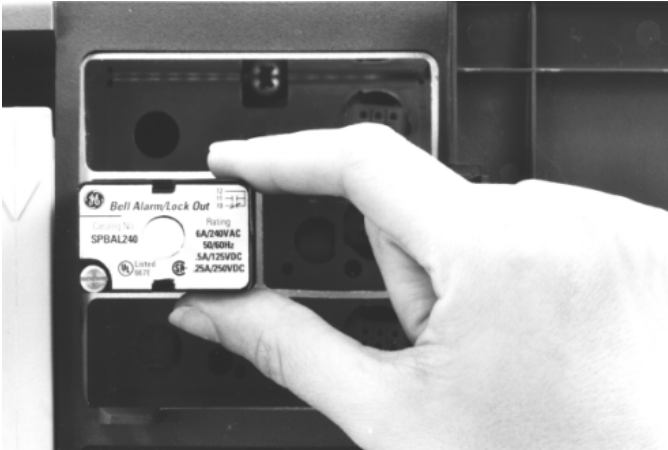

Figure 4. Inserting the Bell Alarm with Lockout into the accessory compartment.
3. Insert the Bell Alarm with Lockout module into the proper slot, as illustrated in Figure 4. The Bell Alarm with Lockout module is keyed for the correct slot in the accessory compartment. If the module cannot be fully seated in the compartment, check that the compartment position is correct.